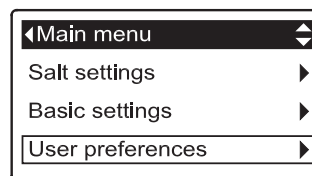

FIG. 107
1. From any of the rolling status screens, press the SELECT (O) button to display the **Main menu**.
2. Press the DOWN (▼) button to scroll through the menu options until **User preferences** is highlighted (See Figure 107).